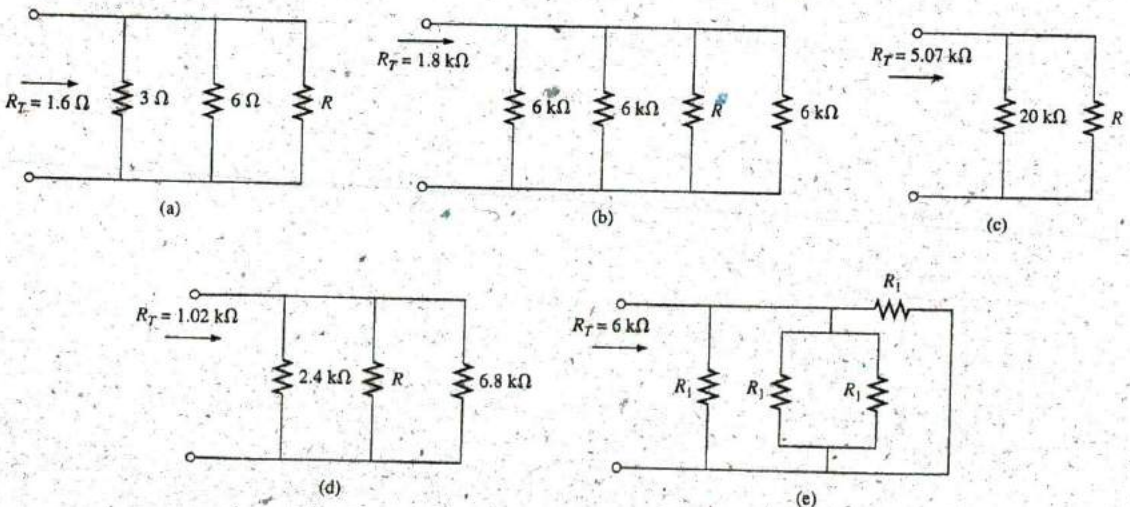

FIG. 6.75
5. The total resistance of each of the configurations in Fig. 6.75 is specified. Find the unknown standard value resistance.